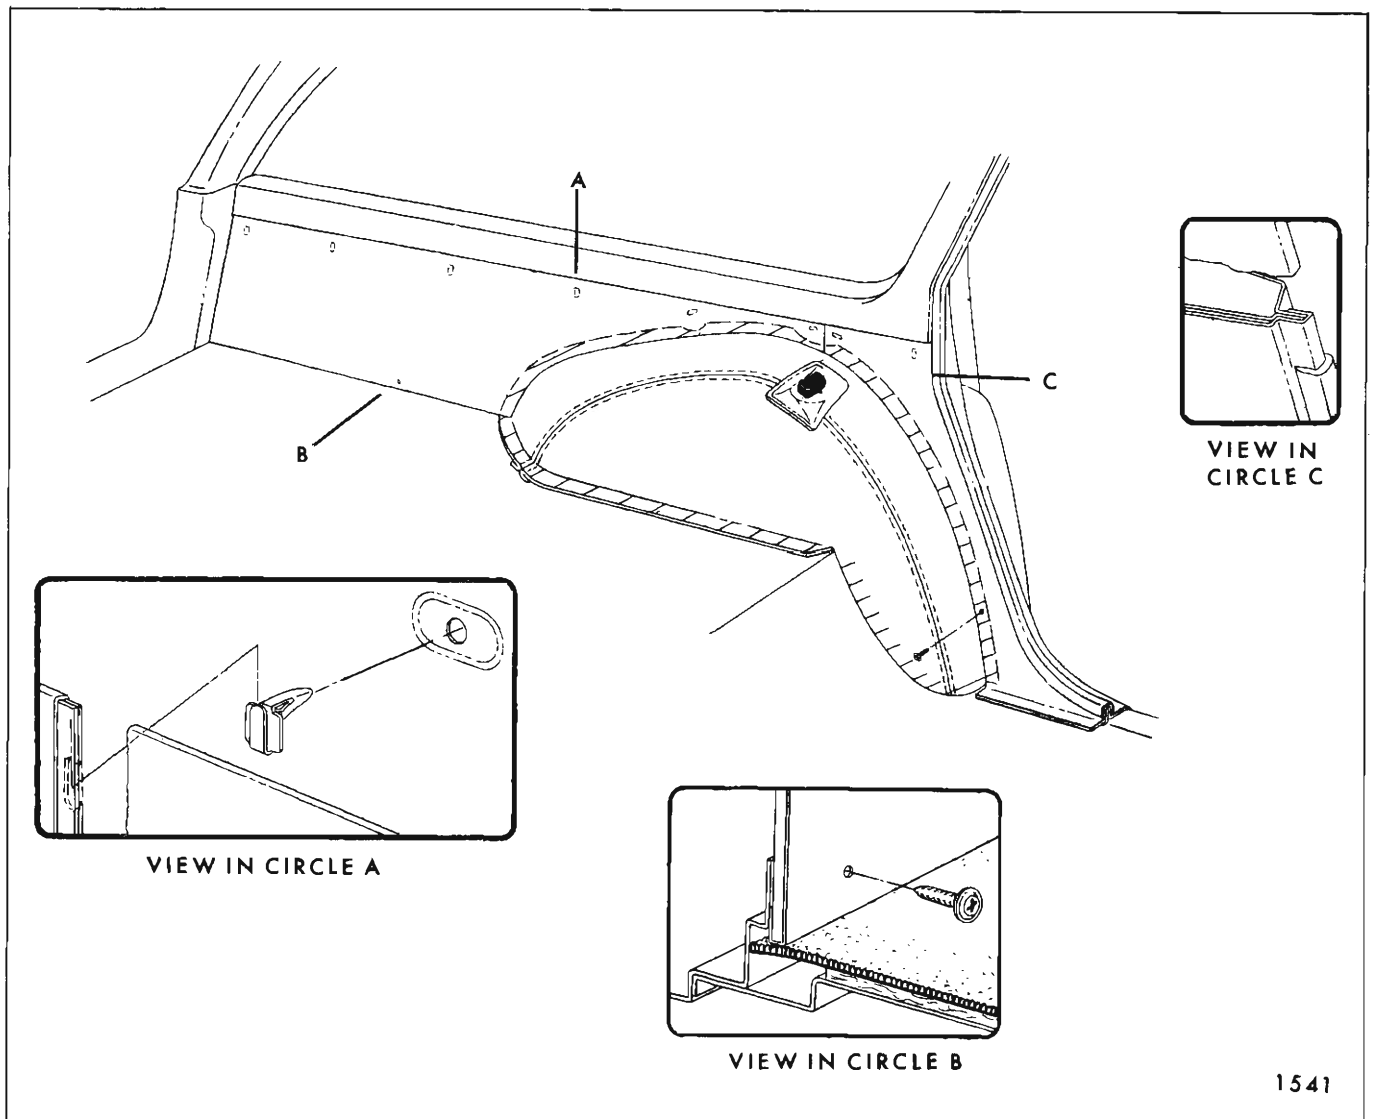

Fig. 2E8—Rear Quarter Trim Installation - Left Side
3. Remove all trim attaching screws at front, rear and bottom of wheelhouse trim cover (see Fig. 2E7).
4. With a putty knife, or other suitable flat-bladed tool, disengage trim retaining clips from sealing plugs along top of wheelhouse cover panel and remove panel from body (see View "C" in Fig. 2E7).